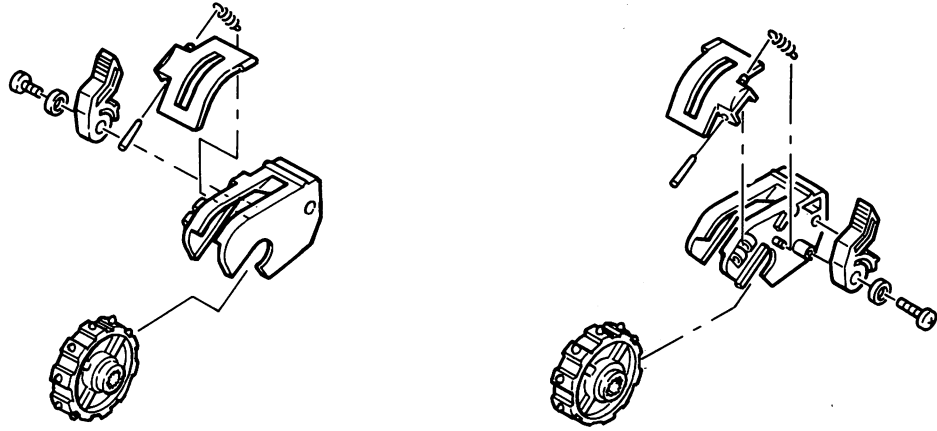

Fig. 4-20. Sprocket Set Disassembly
2. Remove the side covers ① from the left and right sides of the sprocket assembly.
3. Remove the four nuts ② from the left and right sides.
4. Remove the E-ring ③ from the left side, and remove the bearing ④.
5. Remove the left side plate ⑤.
6. Remove the sprocket guide shaft ⑥.
7. Remove the sprocket L set ⑦, the paper guide roller ⑧, the sprocket R set ⑨, and the right side plate ⑩.
8. Remove the pin ⑪, and the pinion ⑫.
9. Disassemble the L and R sprocket sets (Refer to Fig. 4-20).